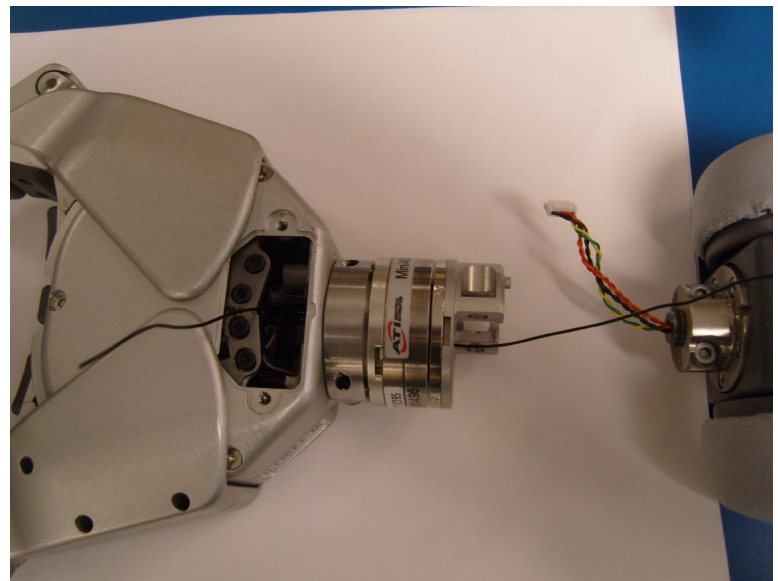

Fig. 4
5. Thread a short piece of solid wire (eg 30 AWG) through the gripper and F/T bodies and use it as a pull wire. (Fig. 4)